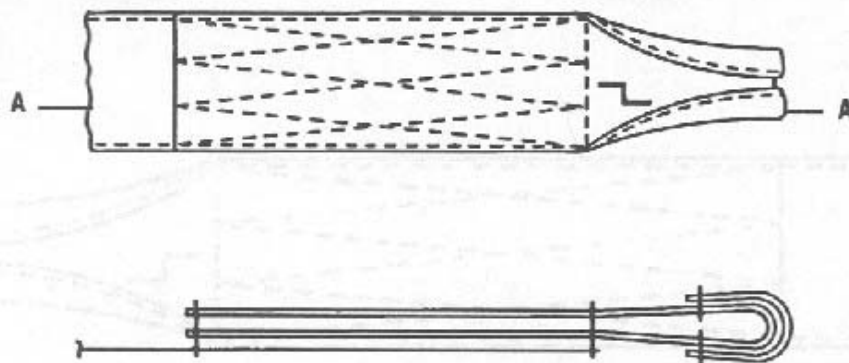

Figure 3-56
- b. Stitch the new loop in place over the old tape using 7 to 11 stitches per inch with size E nylon thread. (See Figure 3-56)